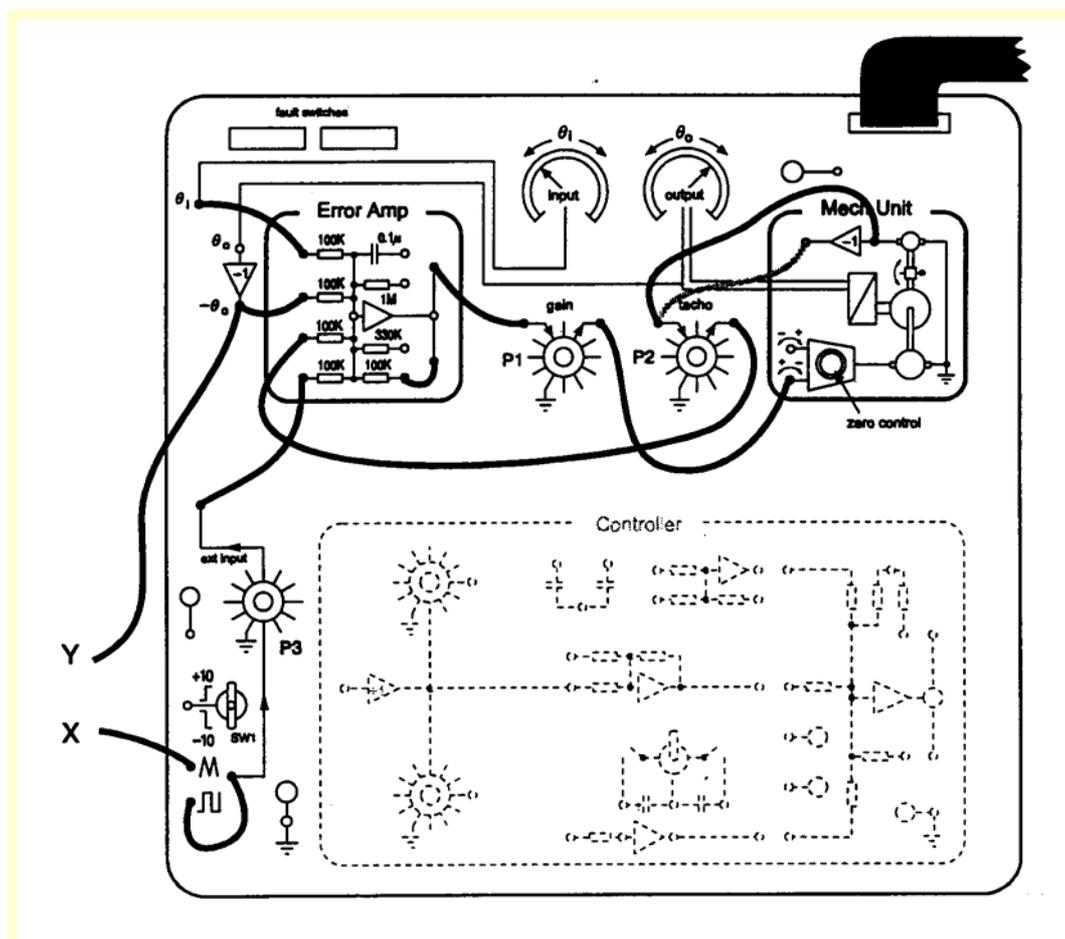

Fig. 5 Connections for velocity feedback
1. Arrange the system as in Fig. 5, initially omitting the connection from P₂ to the tachometer and set P₁ to zero.